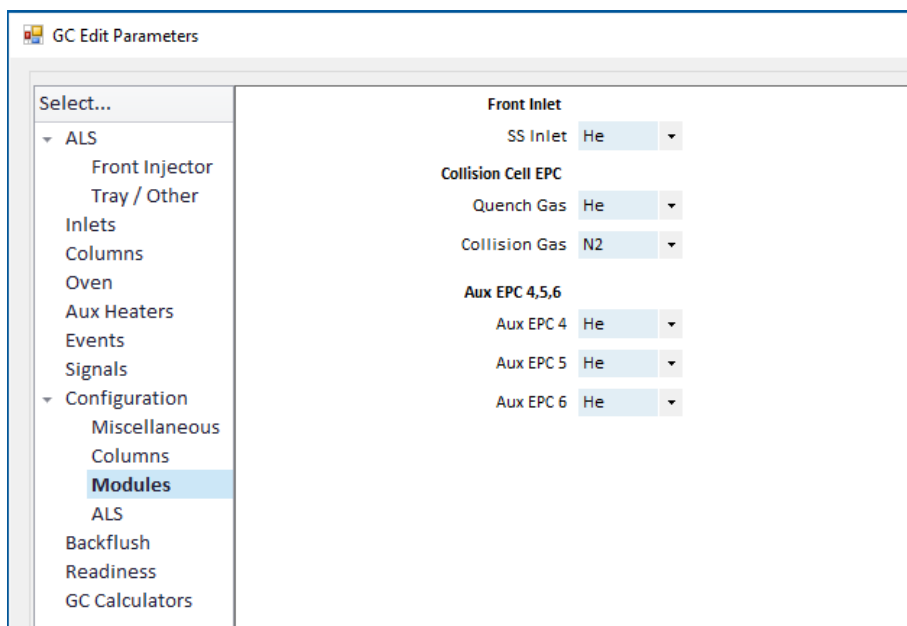

Figure 30. Configure CC gas
- 3 Select Configuration > Modules to display the screen. (See Figure 30.)